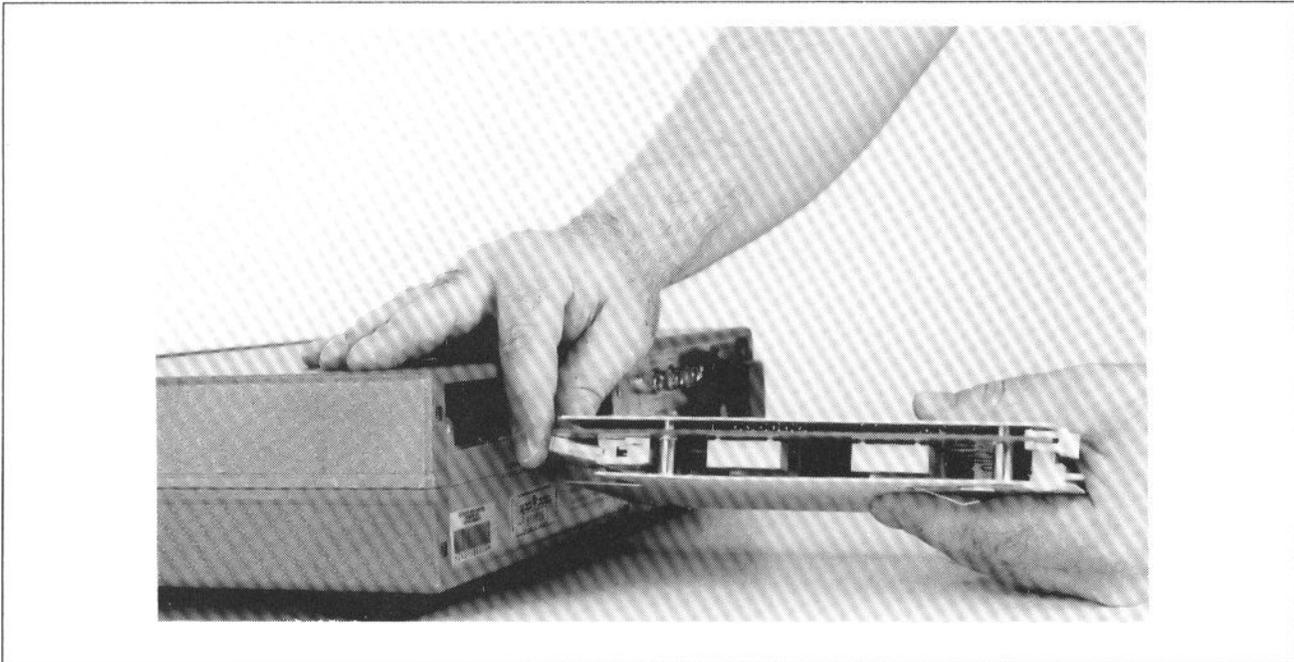

Figure 2-8. Connecting the Wiring Harness
- a. Connect the HP 3457A wiring harness connector to the Plug-In Assembly connector as shown in Figure 2-8.